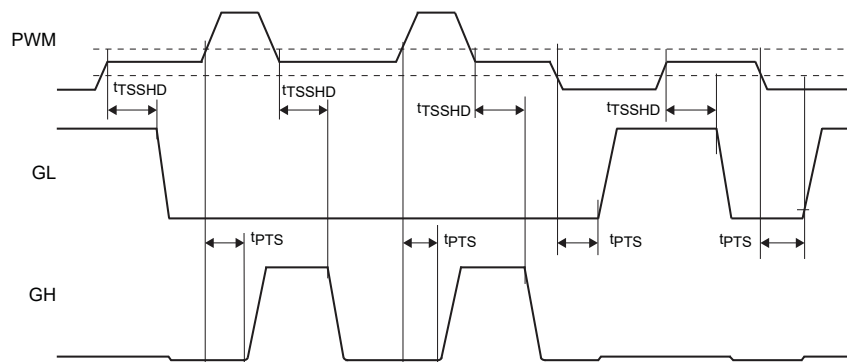

Figure 2. PWM Tri-State Input Logic Timing Diagram
The PWM is also a tri-state compatible input. When the input is high impedance or unconnected both the gate drives will be off and the gates are held active low. The PWM Threshold Table below, lists the thresholds for high and low level transitions as well as tri-state operation window. As shown in Figure 2, there is a hold off delay between the corresponding PWM tri-state signal and the output gate drive being pulled low. This delay is typically 175ns and intended to prevent spurious triggering caused by tri-state mode entrance.
**Note:** See Figure 2 for propagation delays and tri-state window.